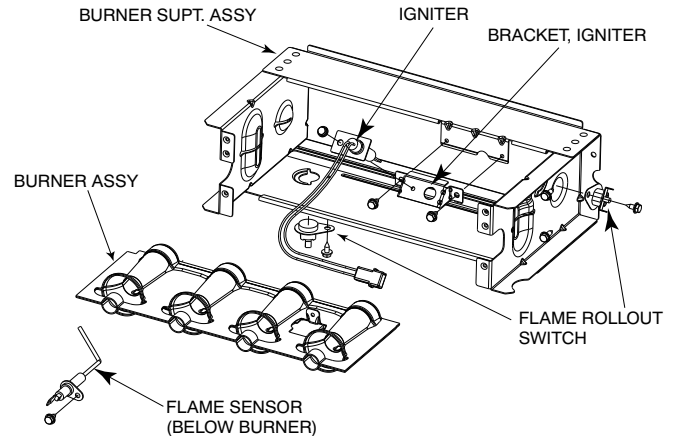
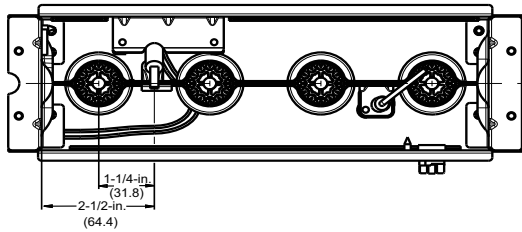
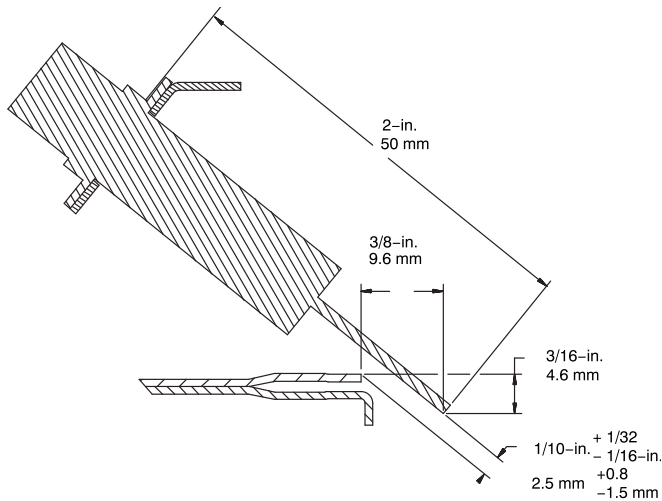

Fig. 66 – Burner Assembly
Fig. 67 – Igniter Position - Top View
Fig. 68 – Igniter Position - Side View
- Check the igniter alignment, see Fig. 66, Fig. 67 and Fig. 68.
- a. Using a 1/4-in. driver, remove the two screws securing the igniter mounting bracket to the burner assembly See Fig. 66.
6. To replace igniter and bracket assembly, reverse items 5a through 5d.
7. Reconnect igniter harness to the igniter, dressing the igniter wires to ensure there is no tension on the igniter itself, see Fig. 66.
The igniter does NOT require annual inspection. Check igniter resistance before removal, see Fig. 66, Fig. 67 and Fig. 68.